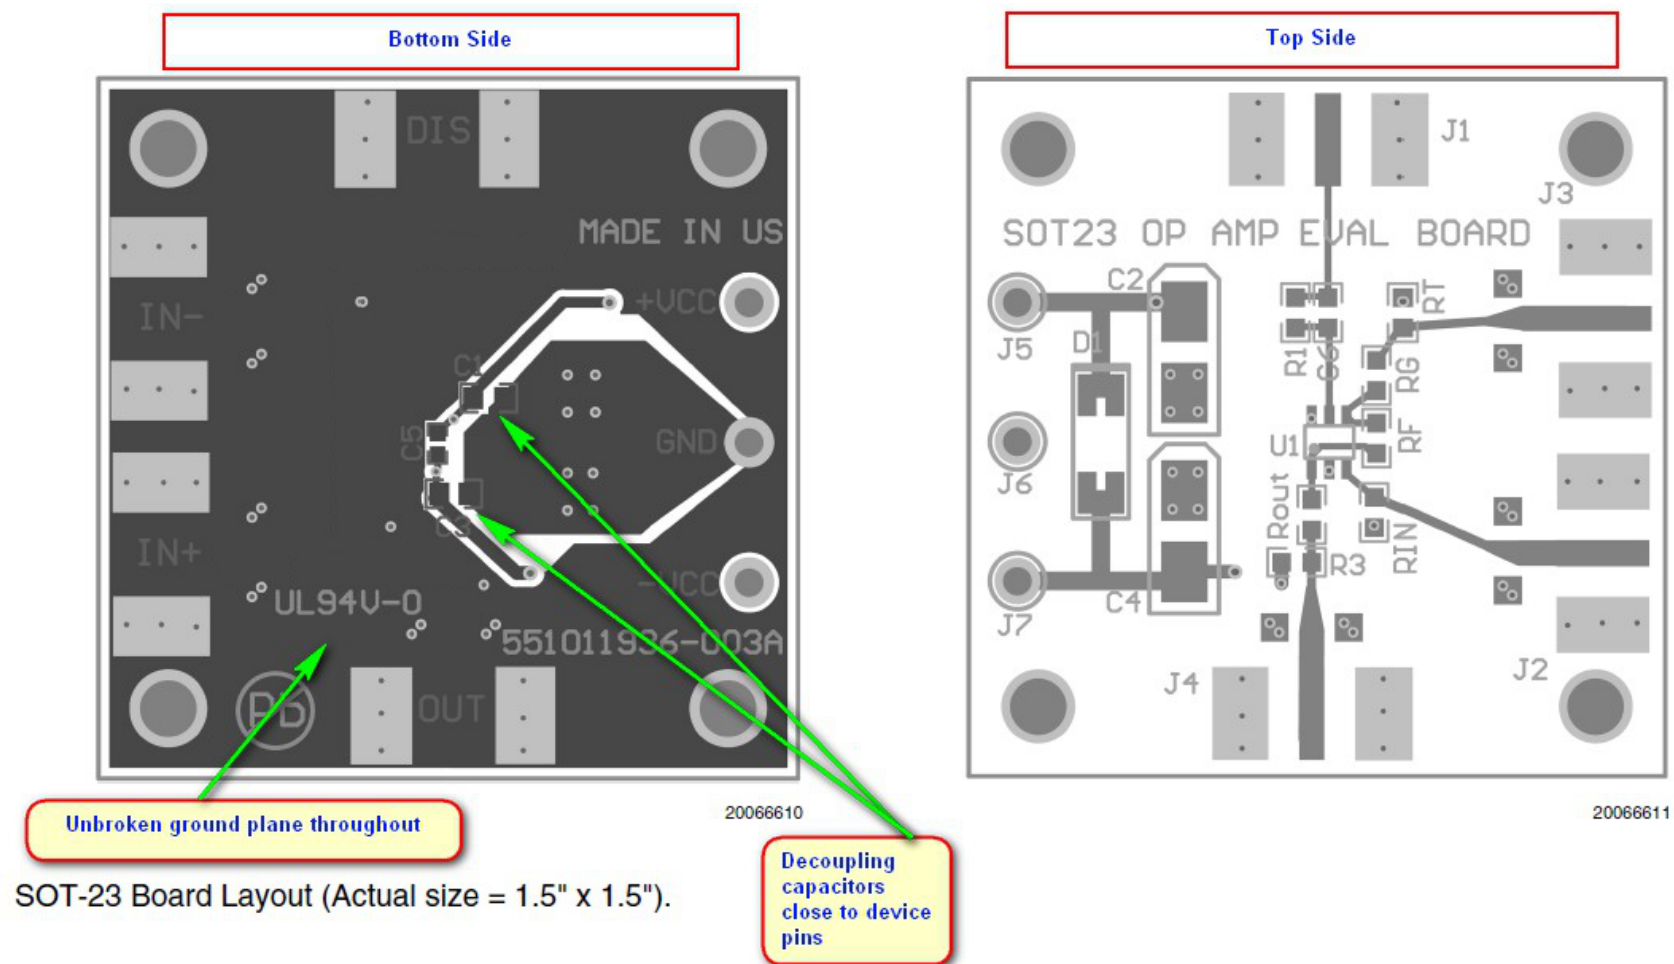

Figure 20. SOT-23 Board Layout Example
1. Power supply bypassing is critical, and will improve stability and eliminate possible output chatter. A decoupling capacitor such as 0.1- $\mu$ F ceramic should be placed as close as possible to  $V^+$  pin (and to  $V-$  pin if used with dual supplies) as shown in Figure 20. An additional 2.2- $\mu$ F tantalum capacitor may be required for extra noise reduction.
4. Use a PC board with a good, unbroken low inductance ground plane as shown in Figure 20. Make sure ground paths are low-impedance, especially where heavier currents are flowing.